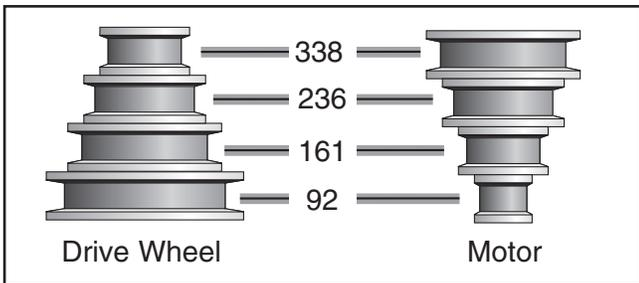

Figure 36. V-belt positions in FPM.
The Model G0886 has four speed settings—92, 161, 236, and 338 feet per minute (FPM). These different speed settings are changed by moving belt position on pulleys (see **Figure 36**). Refer to the chart on **Page 33** for cutting speed recommendations by material type.
4. Move V-belt to required pulley combination (see **Figure 36**).